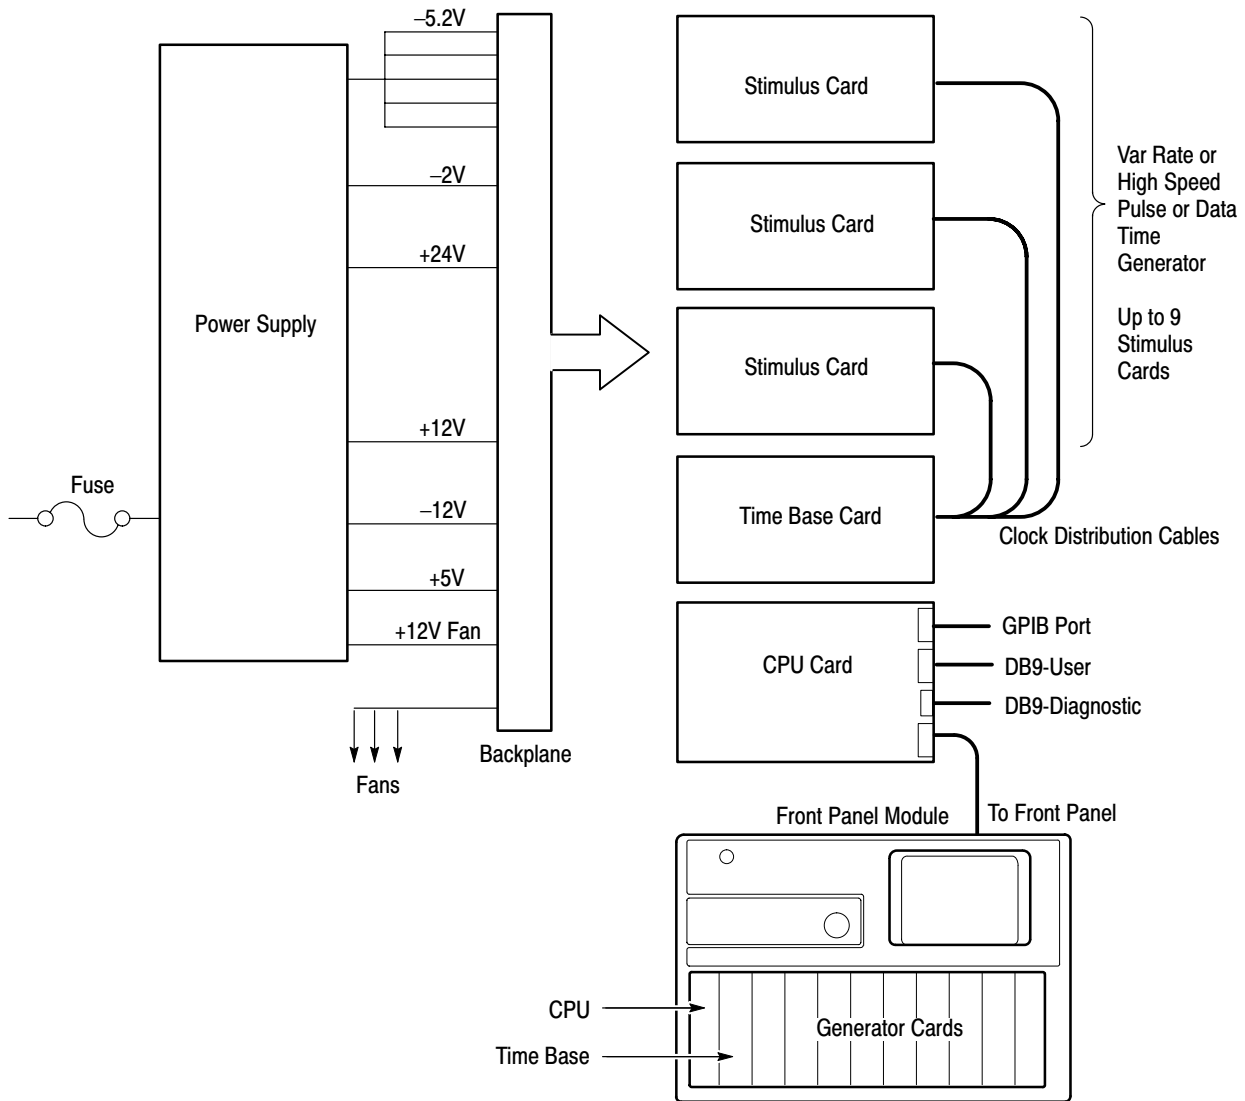

Figure 3: Module block and interconnection diagram
2. CPU is located in the first card slot on the left (as view from the front of the instrument). See Figure 3, for card location.
1. Push the CPU card into the appropriate slot through in the mainframe. Refer to Figure 3 to identify the proper card position in the rack. Reattach the card with two screws, one on either end of the card front panel.